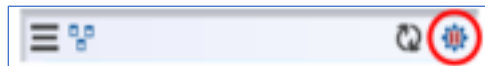

Figure 91: Gear with Red Pause Symbol—Auto Apply Mode Enabled
- When a red ‘pause’ symbol displays in the gear, as shown in Figure 91, Auto Apply mode is enabled.